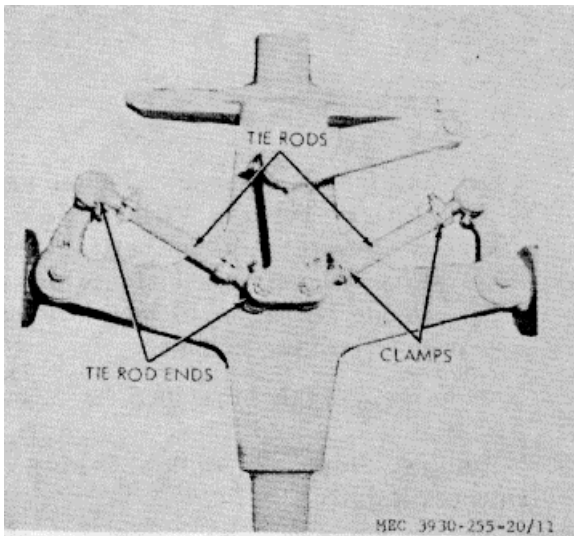

Figure 11. Steer axle, adjustment points.
- (1) With rear axle (fig. 11) level, front to rear, and wheels in straight ahead position, measure inside span between tires at hub height at front of axle.
- (2) Repeat (1) above at rear of axle.
- (3) If measurements obtained in (1) and (2) above differ by over 1/16 inch, adjust as given in b below until wheels are parallel to within 1/16 inch as measured in (1) and (2) above.
- (1) Loosen (but do not remove) screws and nuts through all tie rod end clamps (fig. 11).
- (2) Turn each tie rod an equal number of turns in the direction necessary to change toe-in as required. Each tie rod has right-hand threads at one end, left-hand threads at the other, so adjustment can be made to change effective length without dismounting tie rod.
- (3) When adjustment has been completed tighten tie rod clamp screws and washers.